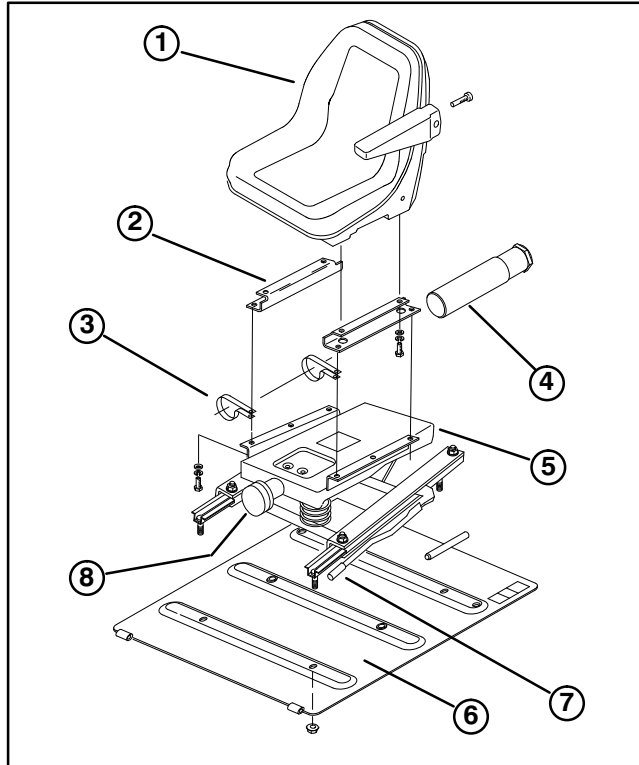

Figure 5
2. Mount each seat adapter bracket to seat with (2) 5/16-18 x 3/4" lg. capscrews, flatwashers and lockwashers, positioning as shown in figure 5.
3. Loosely mount right seat adapter bracket and (2) R-clamps to right side of suspension with (2) 5/16-18 x 3/4" lg. capscrews, flatwashers and lockwashers. Position R-clamps as shown in figure 5.
4. Install manual tube into R-clamps, insert manual into tube and thread cap into tube (Fig. 5) Tighten capscrews.
5. Mount left seat adapter bracket to left side of suspension with (2) capscrews, flatwashers and lockwashers.
7. Secure mounting studs to seat base with (4) locknuts.
9. Install each arm rest bracket to each side of seat with (3) socket head capscrews supplied in kit.